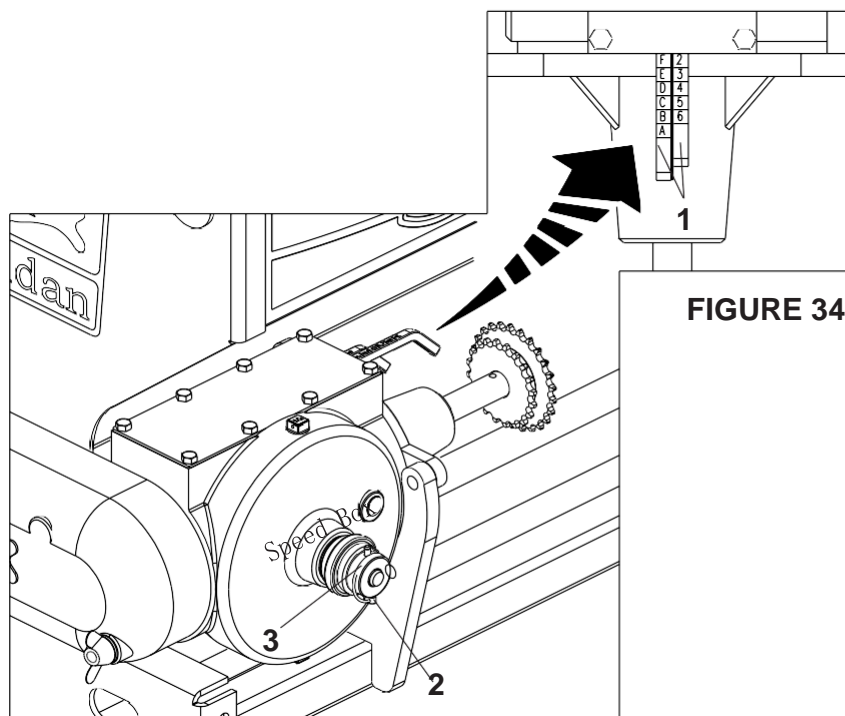

FIGURE 34
SPEED BOX (FIGURE 34)
2 - For seed setting, select the desired amount in the tables and check the corresponding combination of the cursors (1). Example: position **F 2** indicates that the cursor with letters must be in position "F" and the cursor with numbers must be in the "2" position, according to the detail of (FIGURE 34)